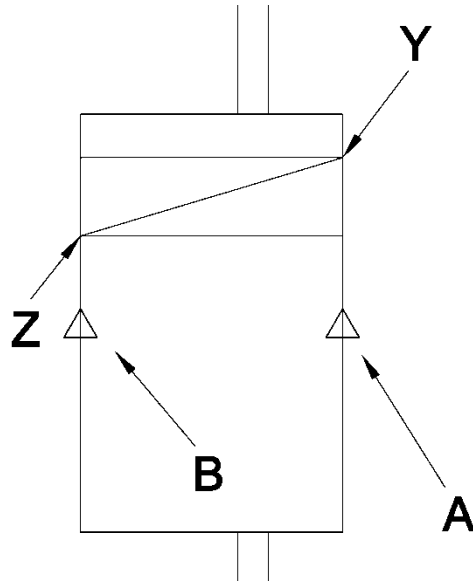
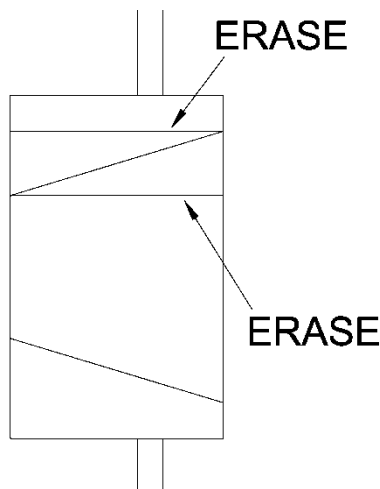
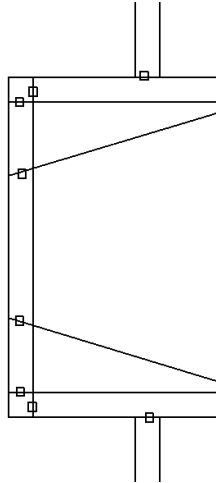

Fig 1-30
Fig 1-31
Fig 1-32
Right click and a menu will appear. Click on **Repeat Offset** (or use the old method and just click Offset). Type **14** <e>. Click on the **top horizontal line** of the rectangle again. Click below. **Esc**. You will now see the two offset lines shown in Fig 1-30 (minus the diagonal line).
Turn the **Ortho off**. Draw a **line** from **Y** to **Z** in **Fig 1-30**. **Esc**.
Click on the **Mirror** button on the **Modify** palette. The Command Line reads: **Select Objects**. Click on the new diagonal **line YZ**. Then **<e>**. The Command Line reads: **Specify first point of mirror line**. Click on the middle of the right side of the rectangle on the **midpoint icon** that will appear when your cursor approaches the point shown as **A** in **Fig 1-30**. Move the cursor to the left and **click** on the middle of the other side of the rectangle (**point B**). Then **<e>**. You will see Fig 1-31.
**Erase** the **lines** as shown in **Fig 1-31**. Click **Offset**. Type **3.5 <e>**. **Click** on the **sides** of this **rectangle** and create walls inside the rectangle to look like **Fig 1-32** (minus the boxes).
**Trim** the lines at the points marked with the **boxes** shown in **Fig 1-32**. The fireplace will now look like it does in Fig 1-34.